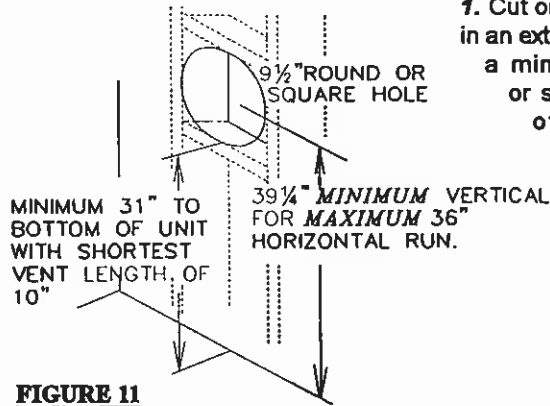

FIGURE 11
- FIGURE 11. Secure the firestop spacer over the opening to the interior wall.